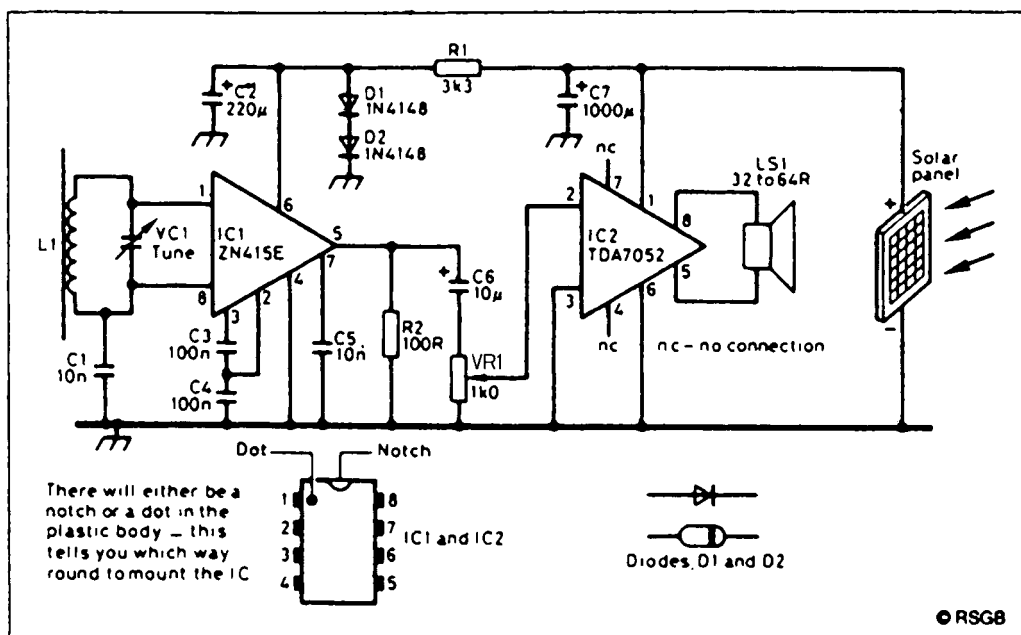

Figure 1 The radio uses just two integrated circuits (chips) and operates at any voltage from 2 to 9V
The radio uses the ZN415E integrated circuit (IC), connected as shown in **Figure 1**, the complete circuit diagram. The signal is tuned in by the combination of L1 and VC1. L1 is made by winding about 35 turns of 24 SWG enamelled copper wire on a ferrite rod. A standard ferrite rod of 10 cm length and 1 cm diameter is used.